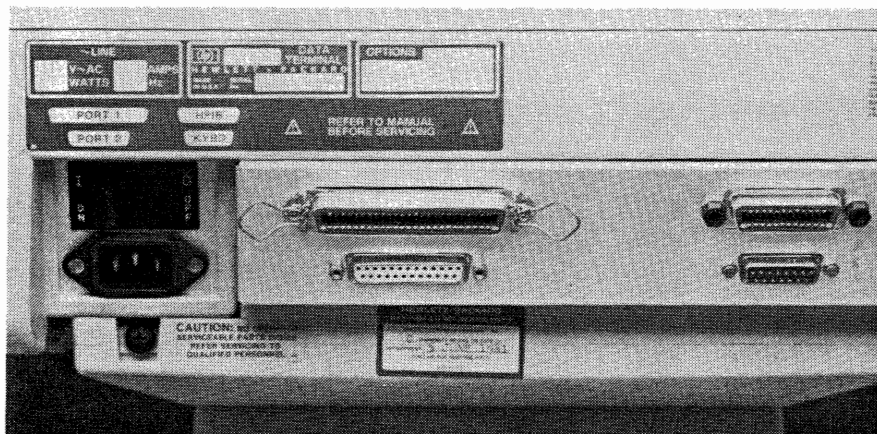

Figure 7-2. 45500A or 45500B (Rear View)
2. Loosen the quarter-turn fastener at the left rear of the terminal housing (as viewed from the rear). See figure 7-2.